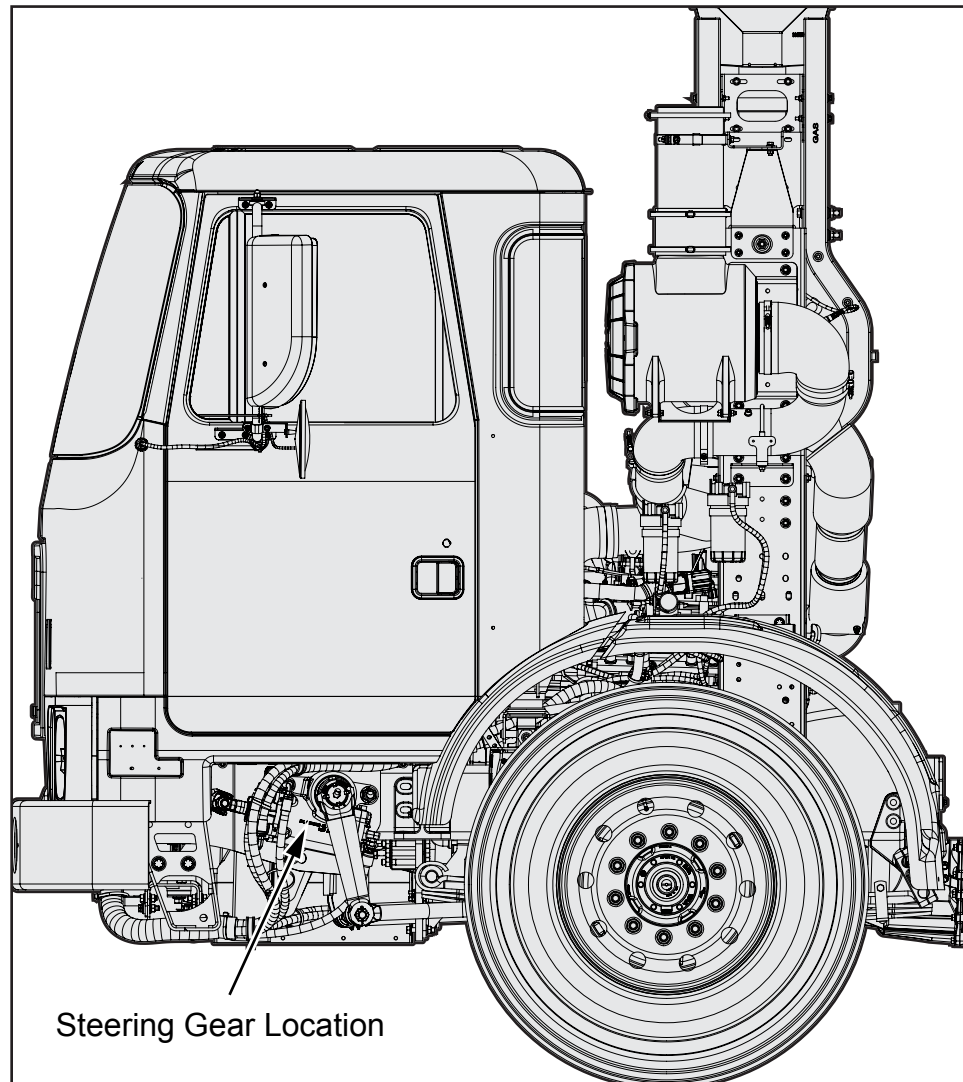

Figure 1, ACX LHD
3. Locate the steering gear (see Figures 1,2,3 and 4).